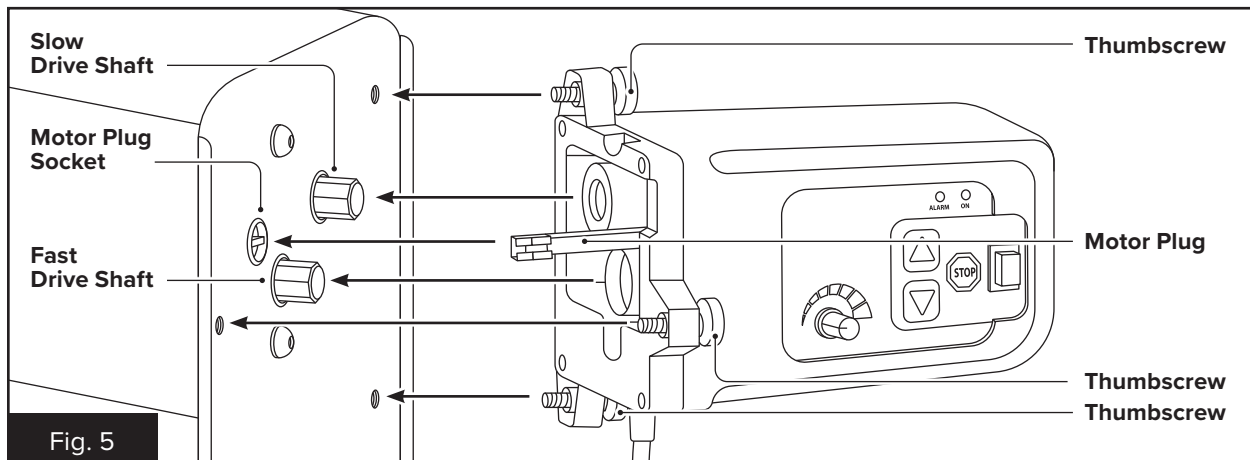

Fig. 5
3. Insert the plug of the motor into the socket on the stuffer body. (Fig. 5)
4. Slide the motor onto the slow drive shaft, lining up the mounting thumbscrews to the mounting holes. (Fig. 5)
5. Screw the 3 thumbscrews into the mounting holes, alternating between them so the motor rests flat against the stuffer. (Fig. 5)
6. When parts are properly aligned, snugly tighten the 3 thumbscrews to secure the motor to the stuffer. (Fig. 5)